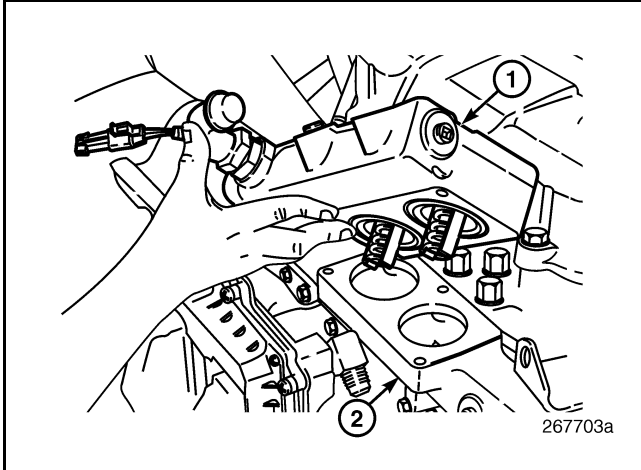

Figure 466 — Thermostat Housing
5. Remove the thermostat housing assembly (Figure 466).
- Position the housing assembly on the coolant manifold mounting surface and install the three mounting capscrews (Figure 466). Tighten the capscrews to specification.